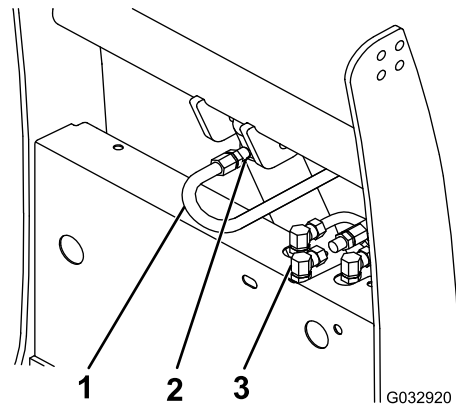

Figure 13
6. Remove the plug on the upper fitting on the lift cylinder (Figure 13).
8. Install that end of the hose to the upper fitting on the lift cylinder (Figure 13). Turn the fitting until it is finger tight, then turn it 2 to 3 more times.
9. Creating an “S” shape with the hose, connect the free end of the hydraulic hose to the rear fitting on the hydraulic shelf (Figure 13). Turn the fitting until it is finger tight, then turn it 2 to 3 more times.